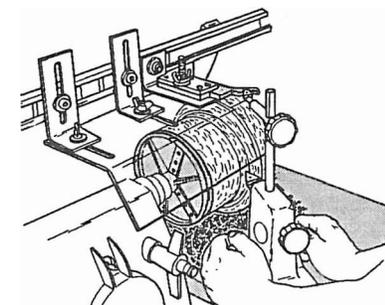

Fig. D-5
**20. Rough shape the inside profile.** If you're using a dual-center line template for a thin-walled bowl or cup, re-center the template for the inside profile. If using two separate templates, change to the inside profile template. See Fig. D-5. Work on the inside profile from the tailstock end. When the inside profile is rough shaped, turn off the machine.